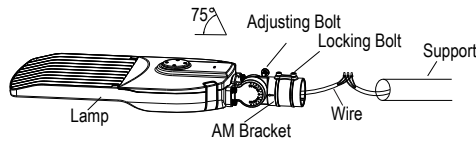

Figure 18
Step 1: Loosen the two bolts on the AM bracket, connect the wires correctly, and thread the wires into the poles (Figure 18).
Notice: The adjustable angle range is 0-90° (Figure 18).